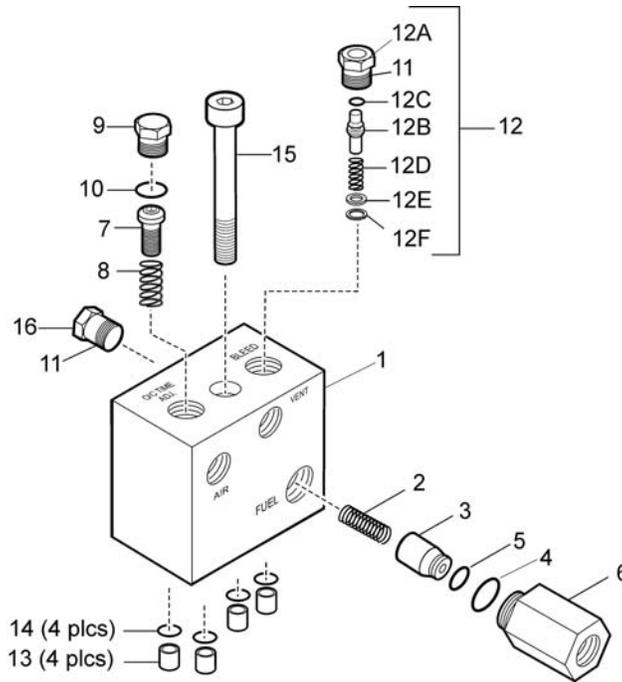

Figure 2
- 6.5.6 If bleed valve was disassembled begin by placing O-ring (2-12C) over the Poppet (12B). Lay Plug (2-12A) upside down and insert assembled (2-12B) [Reference Figure 2]. Place Spring (2-12D) over the shaft of Poppet (2-12B). Place the Washer (2-12E) on the Spring (2-12D). Compress assembled unit thus far and use snap or lock ring pliers to separate the Retainer (2-12F) and install in the retainer groove on the inside diameter of the bleeder Plug (2-12A).
Reference Figure 2